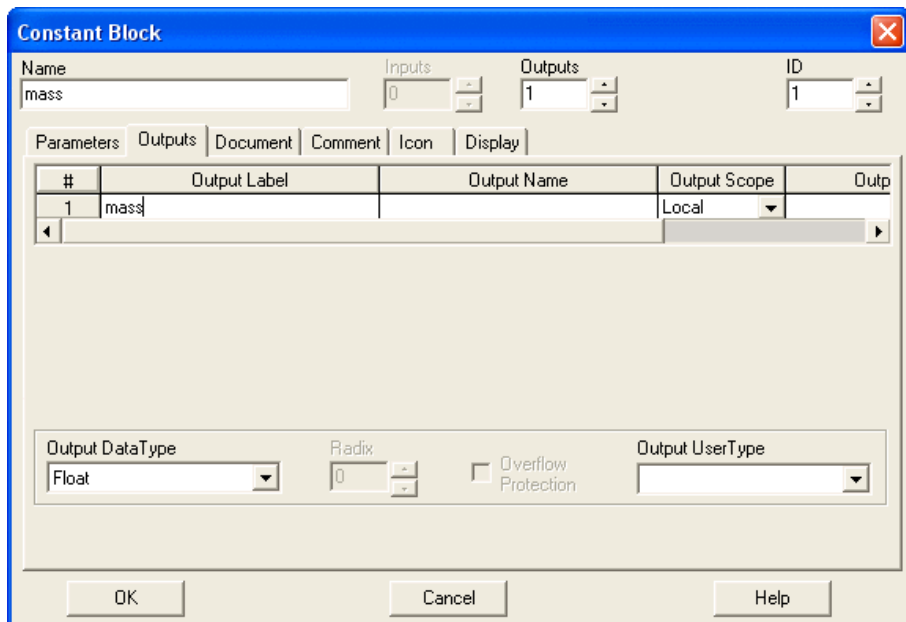

Figure 4-16. Constant Block Properties Dialog Box: Outputs Tab
4. Click the **Outputs** tab. (refer to Figure 4-16).